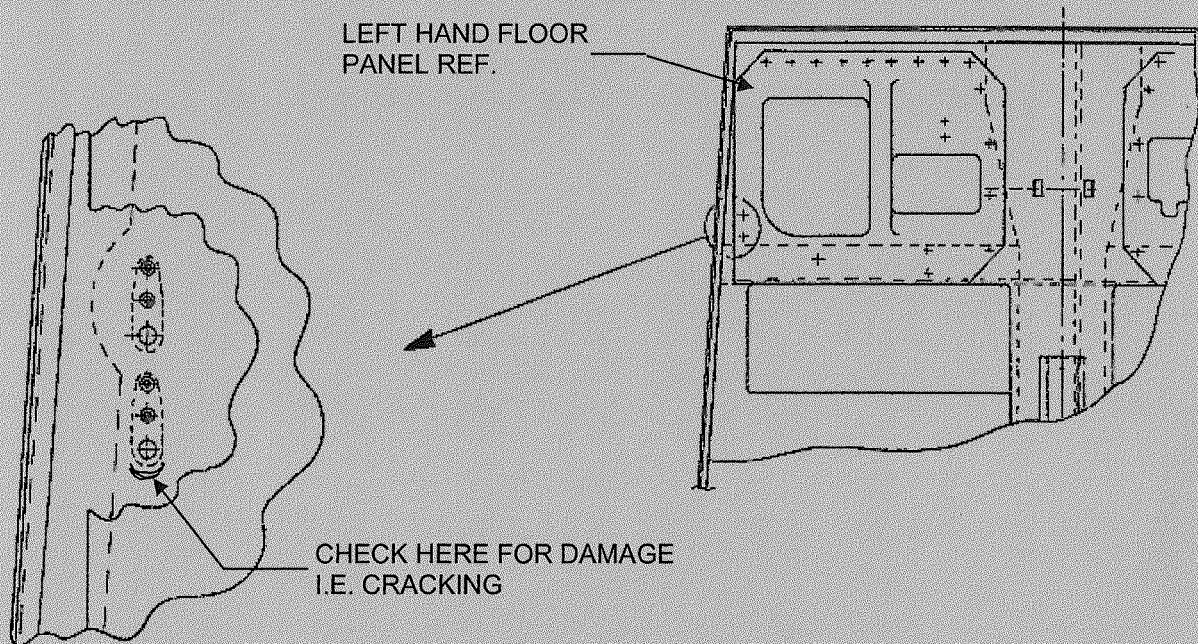
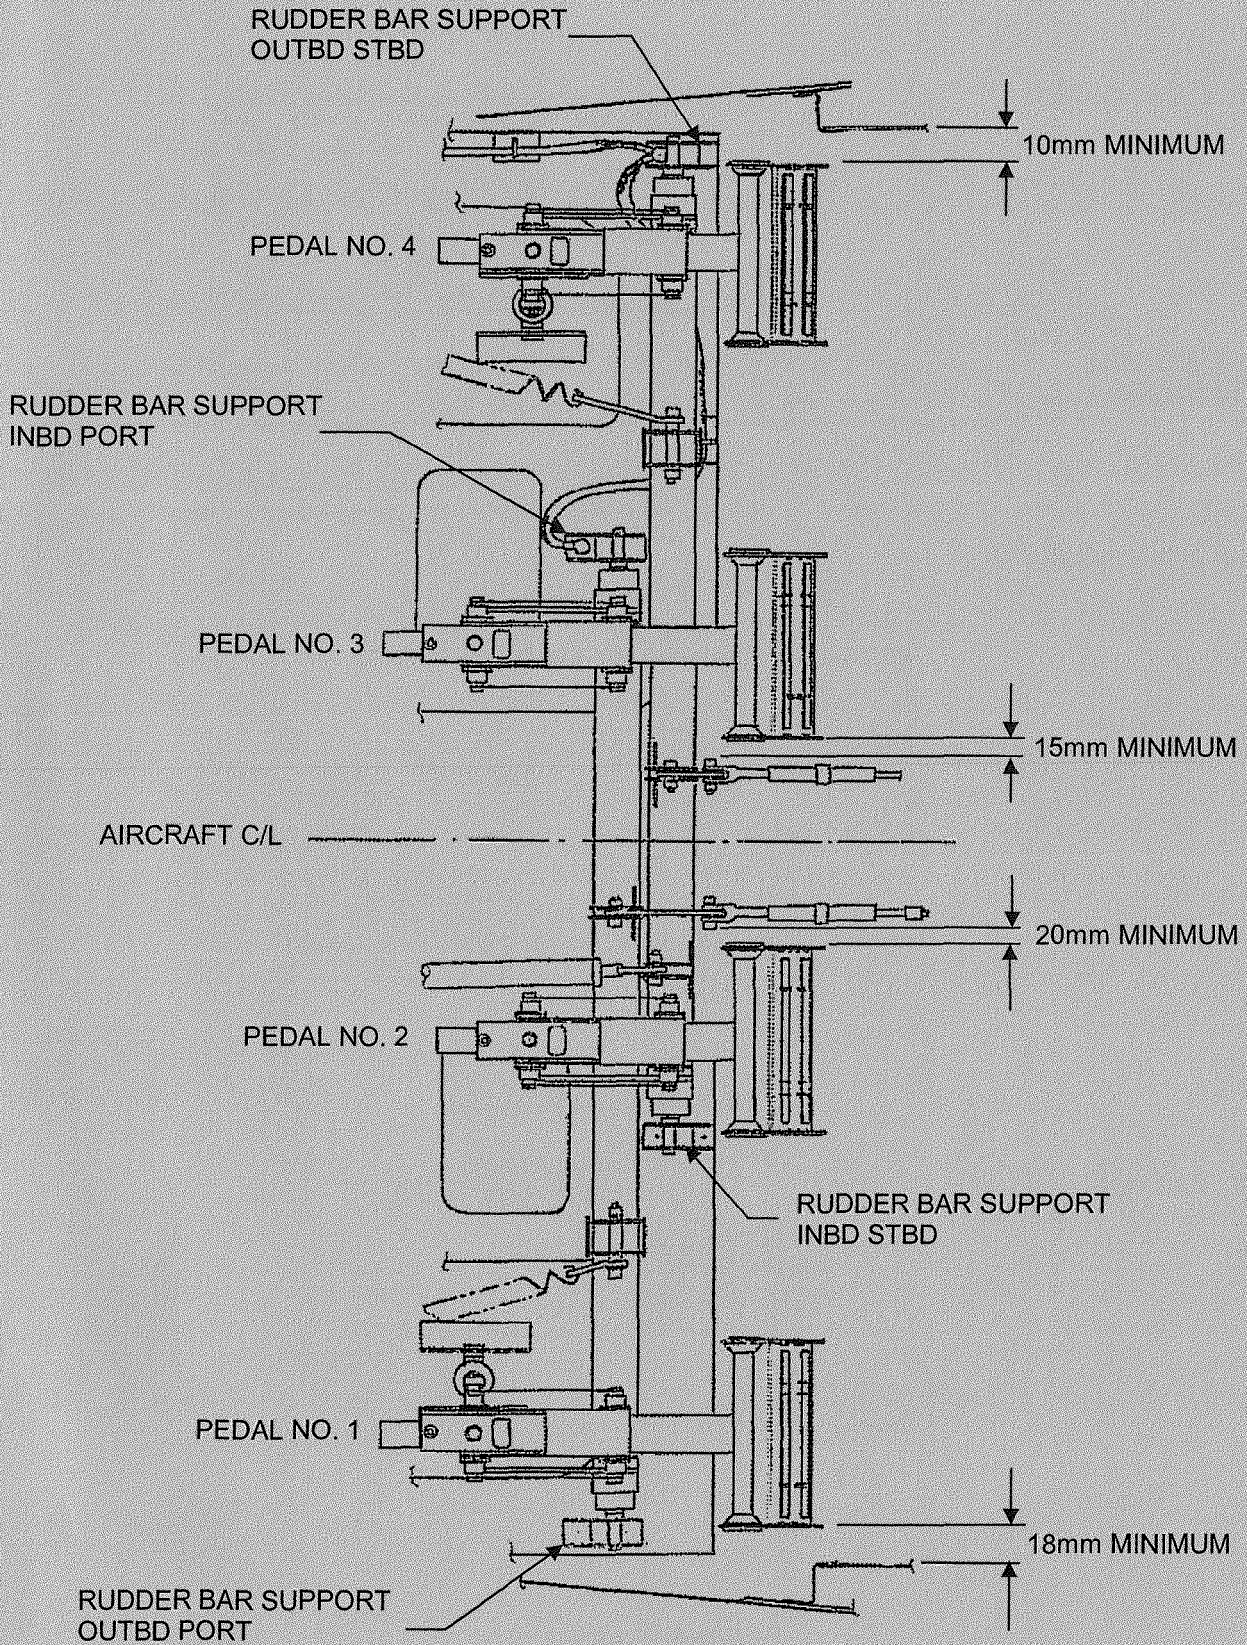

FIGURE 3
FIGURE 4
5. Check that the Rudder Pedal bar port outboard support bracket, ref. Figure 4, is square to floor and not "lozenged" and there is no deformation to its base. Check floor panel under area of bracket, inspect for cracking which could allow the bracket to lean. If necessary remove floor panel and check for signs of cracking in the floor around the anchor nuts on Pre Mod M919 aircraft or the anchor nut mounting plate Post Mod M919 aircraft, refer Figure 3. Any GRP damage will be shown as a white shadow on the GRP, with cracking felt as a rough edge. A light shining up through the floor will show a shadow.
8. Check the remaining rudder bar support brackets, ref. Figure 4, are square to floor and not "lozenged" and there is no deformation to their bases. If any bracket is found to be suspect replace with new item. Inform SACL of any damaged bracket. Assemble item as per paragraph 7 and ensure end float is as stated in paragraph 9. Ensure bonding leads are correctly fitted, carry out bonding check refer relevant aircraft's Maintenance Manual.
13. Upon completion of rudder movement set-up ref. Paragraph 11 above, ensure minimum clearances of trim panel to pedal side plates and rudder cable to pedal side plates are met Refer Figure 4. Refer paragraph 9 for packing washers.